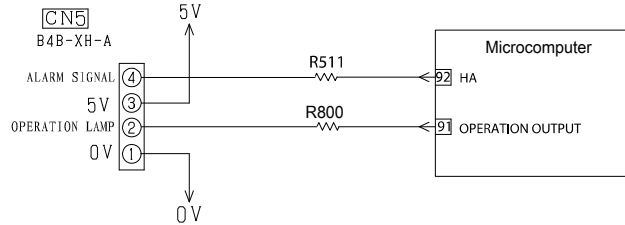

Fig.13-1
Fig.13-1 is the control circuit of run status and signal output in main PWB. The pin ② of CN5 is used to show run status and the pin ④ of CN5 is used to warn people when failure occurrence. If customer want to use this function, need to use the adapter (sold separately) to achieve it. the adapter is optional and the detail circuit refer to following circuit.